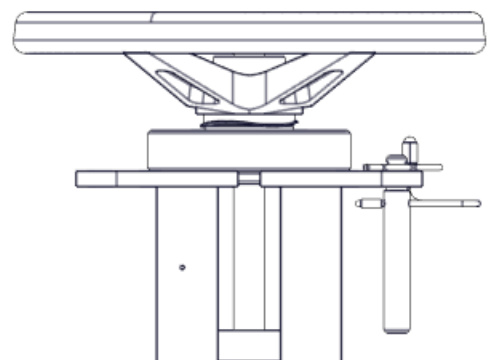

Figure 3—Unlocked Position
4. Place the pin into the hole in the lockout to secure it to the leg fab. See Figure 3.